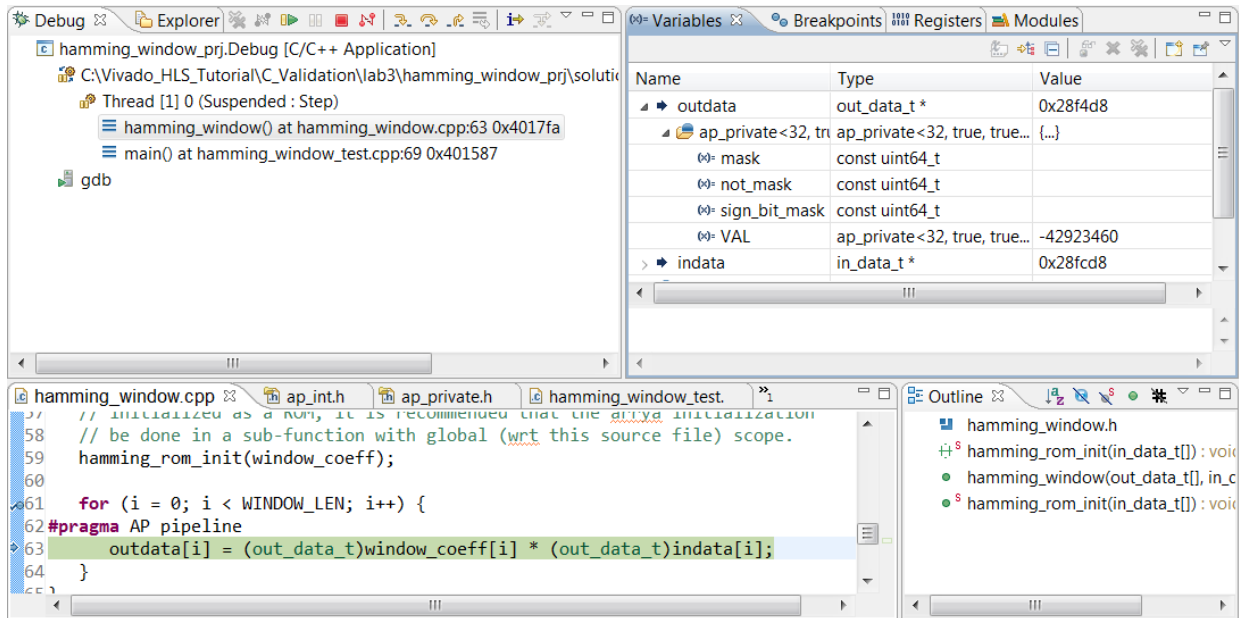

Figure 3-21: Arbitrary Precision Variables
- Expand the `outdata` variable, as shown in Figure 3-21 to see the value of the variable shown in the VAL parameter.